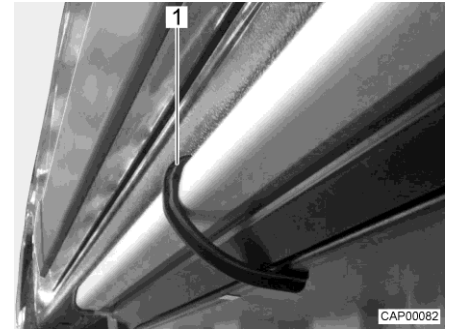

Fig. 5 Fixing clamp (entrance step)
- Secure the entrance step against sliding out using the included fixing clamp (Fig. 5,1).